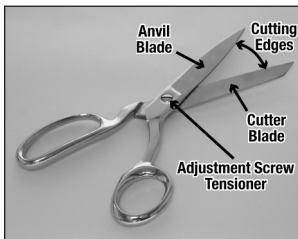

Figure 10: Typical Right-handed Scissors.
2. It is not entirely obvious that the two blades on some scissors can be different. When you cut with scissors, one blade the anvil blade, is designed to be below the material and the other blade called, the cutter blade, is above the material. See Figures 10 and 11. Commonly the blade on top of the material, the cutter blade, does most of the cutting. Referring to the Figures 10 and 11, note that the cutter blade usually has the oblong finger-hold and a more rounded tip. The anvil blade has a more pointed tip and a round finger hold.